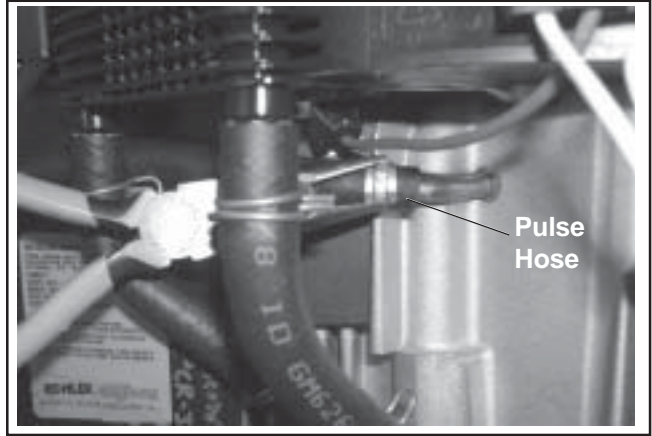

Figure 9-16. Disconnecting Pulse Line from Crankcase.
2. Disconnect the pulse (vacuum) hose from the crankcase. See Figure 9-16.